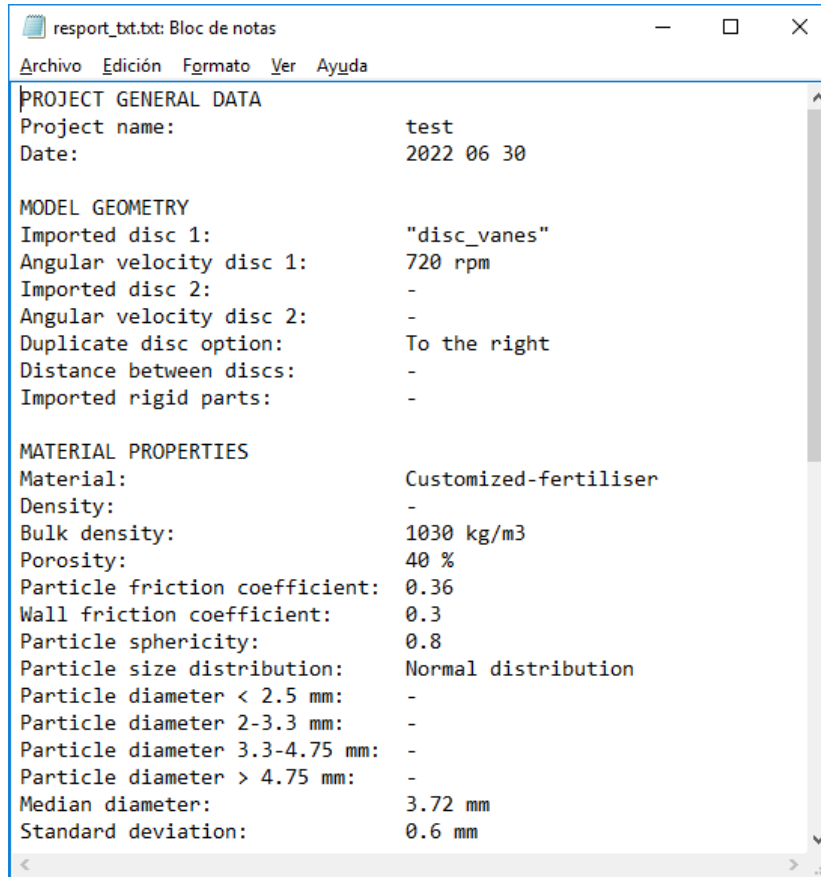

Figure 31. Information about the simulation progress
- **Project parameters report:** the button to the right side of “Start/Stop simulation” allows the user to save a summary of the parameters of the project, such as the project name and date, the angular velocity of the disc, the material properties, the mass flow or the external conditions (Figure 31). This report can be saved in formats TXT or CSV.